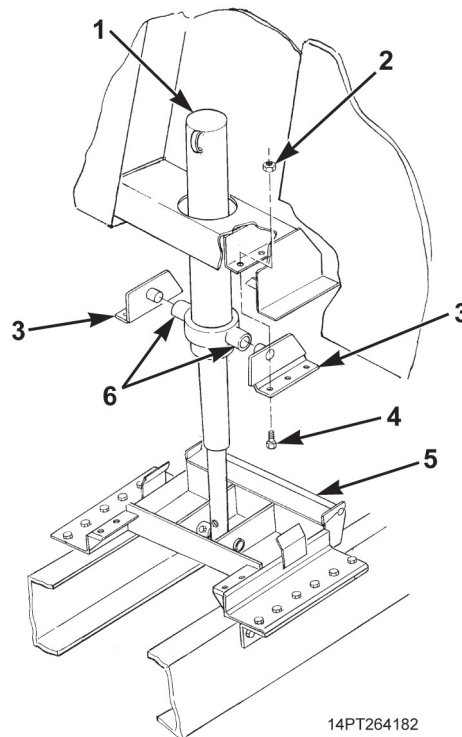

Figure 3. Mounting Bracket Removal.
4. Remove six locknuts (Figure 3, Item 2) and screws (Figure 3, Item 4) from driver's side and passenger's side mounting brackets (Figure 3, Item 3). Remove brackets from hydraulic cylinder pivots (Figure 3, Item 6). Discard locknuts.
5. Disengage Power Take Off (PTO) (TM 9-2320-363-10 or TM 9-2320-302-10). Lower hydraulic cylinder (Figure 3, Item 1) by placing hydraulic control lever in cab in DOWN position (WP 0005). With hydraulic cylinder lowered, place wooden blocks between base of cylinder and cylinder support frame (Figure 3, Item 5) to provide support.